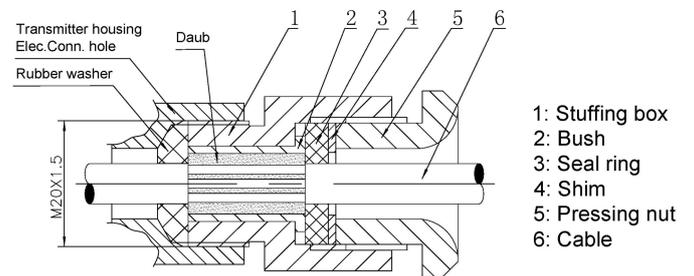
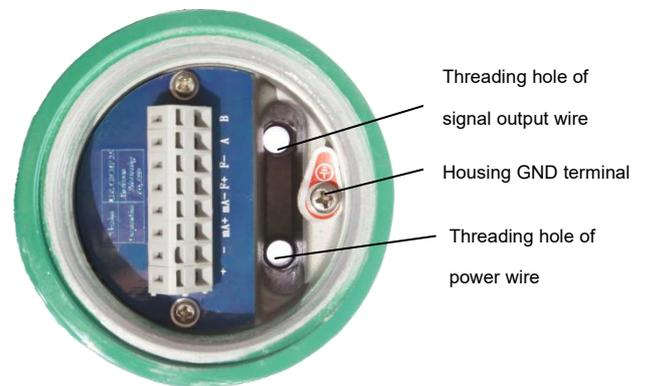
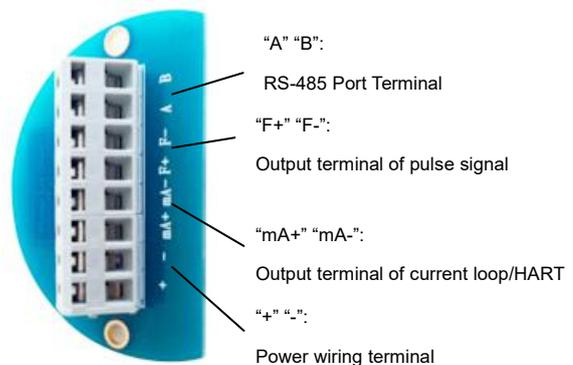

Fig.18 Installation of T2000 Transmitter
Fig.19 The layout diagram of the wiring chamber of T2000 Transmitter
Fig.20 The layout diagram of the wiring of wiring chamber of T2000 Transmitter
- T2000 Transmitter: Full the Bush with Explosion-proof daub, then tighten Pressing nut (Installation instructions details refer to manufactory's HYG820 SERIES Explosion proof cable gland Manual).Refer to Fig.18. In the wiring chamber of the transmitter there be two separated M20×1.5 Elect. Conn. threading holes and used respectively for the wiring of the power and output signal. The layout diagram of the wiring chamber is shown in Fig.19 and Fig.20.
- 3) T2000 connection as shown in Figure 20: +, -
- 2) T2000 connection as shown in Figure 20: F + (positive), F- (negative)
- 2) T2000 connection as shown in Figure 20: A, B
- 2) T2000: connection as shown in Figure 20: mA + (positive), mA- (negative)